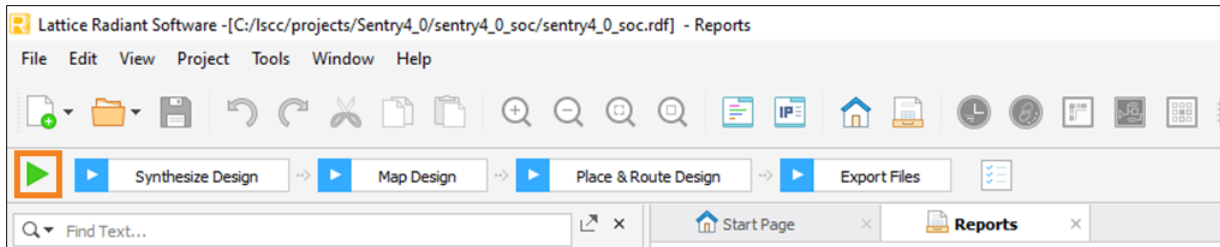

Figure 4.15. Lattice Radiant Software Synthesis/Map/PAR Process
- In the Lattice Radiant software, click the green arrow to run through the Synthesis/Map/PAR/export process to generate a signed bitstream (Figure 4.15).